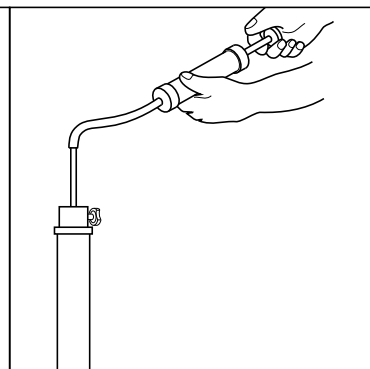

Fig. 1.24B
- Used to maintain the front fork oil level at the specified height. (Fig. 1.24B)